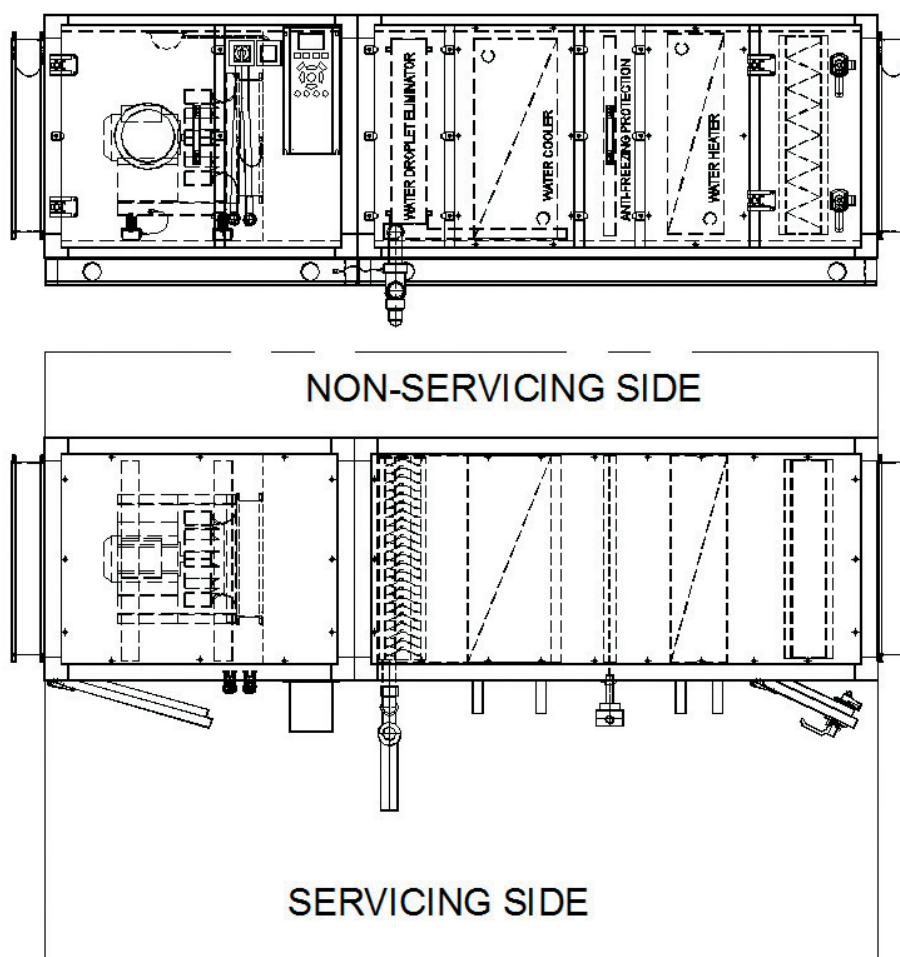

Figure 9
- To facilitate the assembly, a clearance area with a minimum width of 0.5 m should be provided on the non-servicing side (Figure 9).